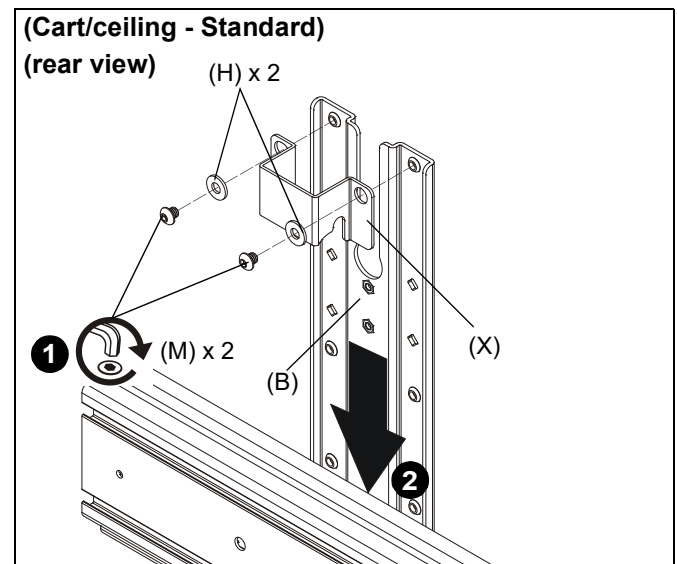

Figure 7
- Use two 1/4-20 x 1/4" button head cap screws (M) and two large washers (H) to secure shelf bracket (X) to main bracket (B). (See Figure 7)
- Slide main bracket (B) onto front of cart/ceiling mount head assembly until shelf bracket (X) rests on top of head assembly. (See Figure 7)